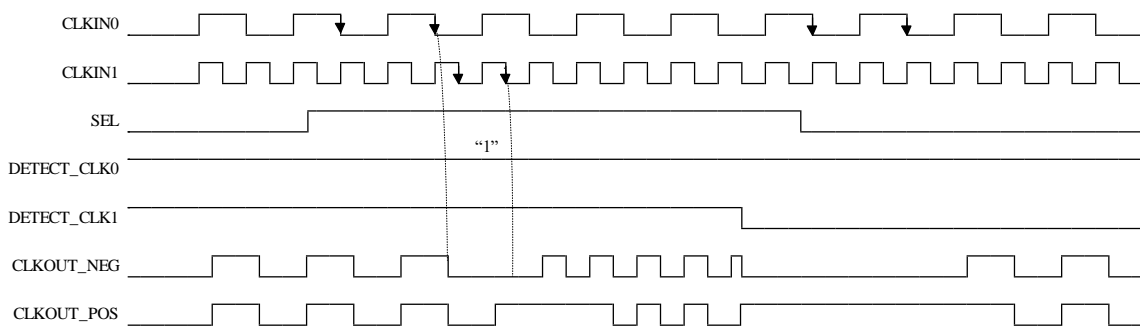

Figure 2-12 GTP_CLKBUFGMUX_E2 Port Timing Diagram 2
- If the detection definition involves both input clock edges initially but is later altered to one edge, glitches may also occur during the configuration of DETECT_CLK0 and its transition from 1 to 0 (see Figure 2-12).